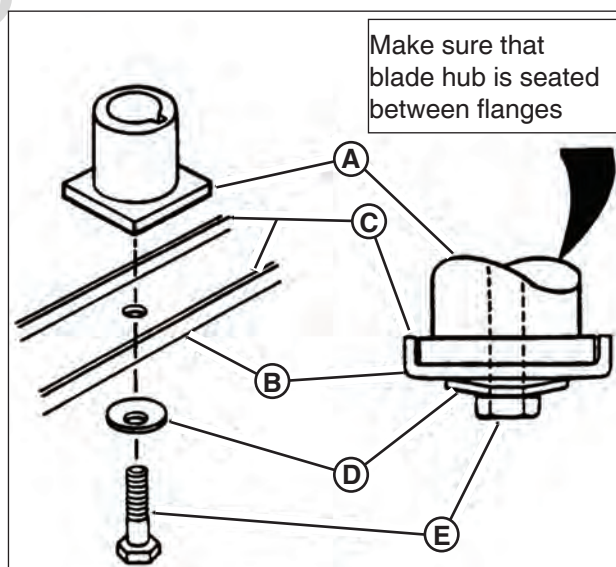

Figure 20: Removing the mower blade
1. Inspect the blade (**Figure 20**) frequently for signs of excessive wear or damage:
3. Remove the blade (**B, Figure 20**).
- Reinstall blade (**B**, **Figure 20**). Note the correct assembly order:
- (A) Blade hub
- (B) Blade
- (C) Blade flange (facing up)
- (D) Cone washer (concave side up)
- (E) Capscrew